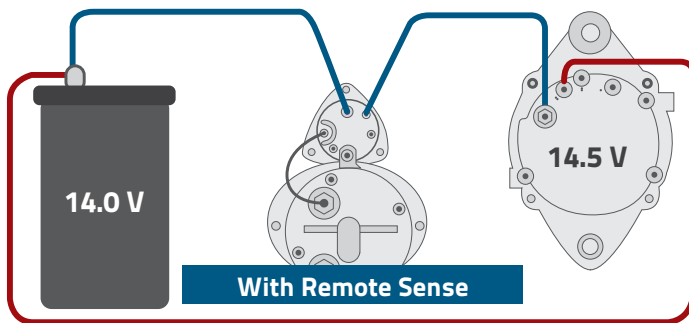

Figure 1
- The alternator has remote voltage reading capability (See Figures 1 & 2)